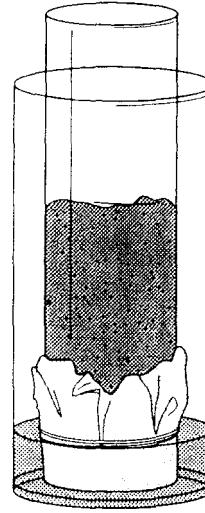

Figure 1.
11. Place the cylinder of sand into one of the vials of water so that the bottom of the cylinder rests on the bottom of the vial (Figure 1). Time how long it takes the water to travel up the column by capillary action. Record the data in Table V.